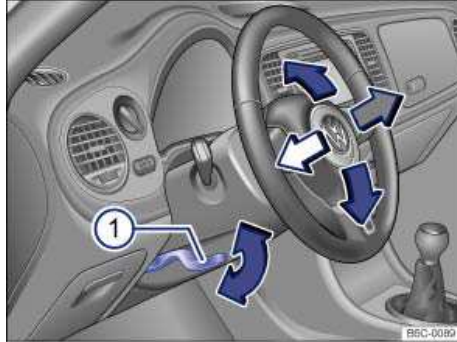

Fig. 41 Manual adjustment for the steering wheel position.
- Push down on the lever ⇒ fig. 41 (1).